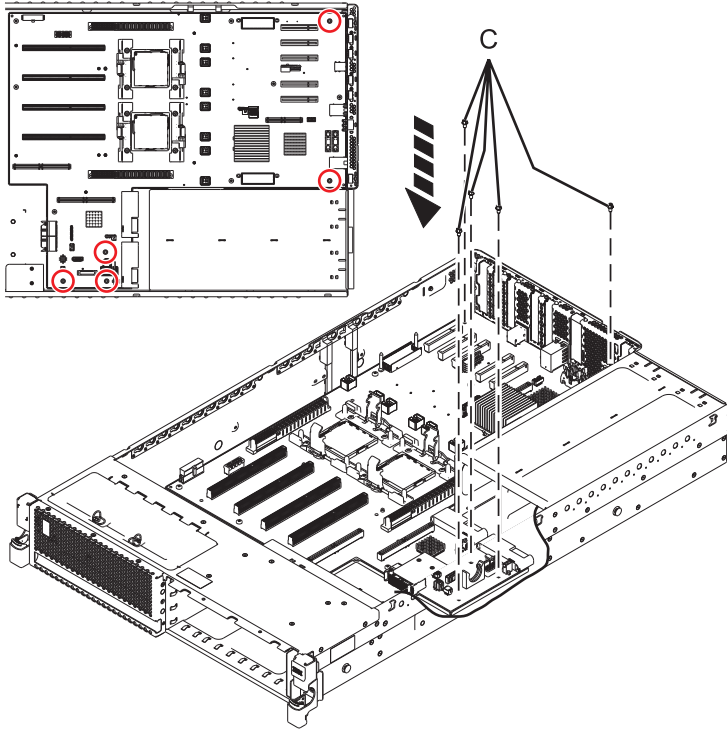

Figure 11. Replacing the system backplane)
- e. Tighten the screws (C) that secure the system backplane to the system chassis. See Figure 11 on page 15.